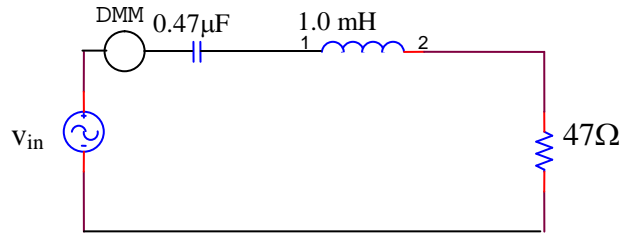

Figure 3 Circuit for Part 3 of Prelab and Lab.
3. Calculate the resonant frequency and half-power frequencies of the circuit in Figure 3. Draw a phasor diagram (i.e. for the *voltage* across all elements at the resonant frequency).
- 3.1 For the circuit of Figure 3, apply a 3 V (6V peak-peak) sinusoidal source. Vary the source frequency and experimentally determine the resonant frequency and half-power frequencies. Use the DMM to measure the current. Carefully note the point of resonance and measure the **magnitude and phase of all voltages (source & across all circuit elements)** at resonance using the oscilloscope. For phasor measurements, you may have to follow the procedures of Lab. 5. Make sure that the source voltage is kept constant.